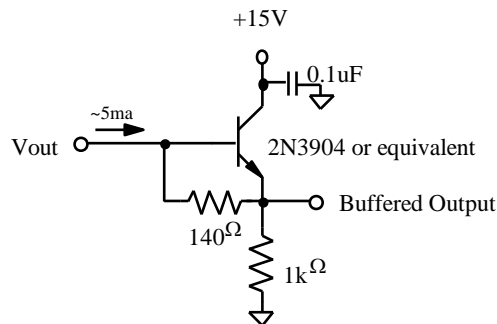

Figure 2: Output Structure Load Diagram
Charge presented to the floating diffusion (FD) is converted into a voltage and current amplified in order to drive off-chip loads. The resulting voltage change seen at the output is linearly related to the amount of charge placed on FD. Once the signal has been sampled by the system electronics, the reset gate (ϕ_R) is clocked to remove the signal and FD is reset to the potential applied by Vrd. More signal at the floating diffusion reduces the voltage seen at the output pin. In order to activate the output structure, an off-chip load must be added to the Vout pin of the device. See Figure 2.